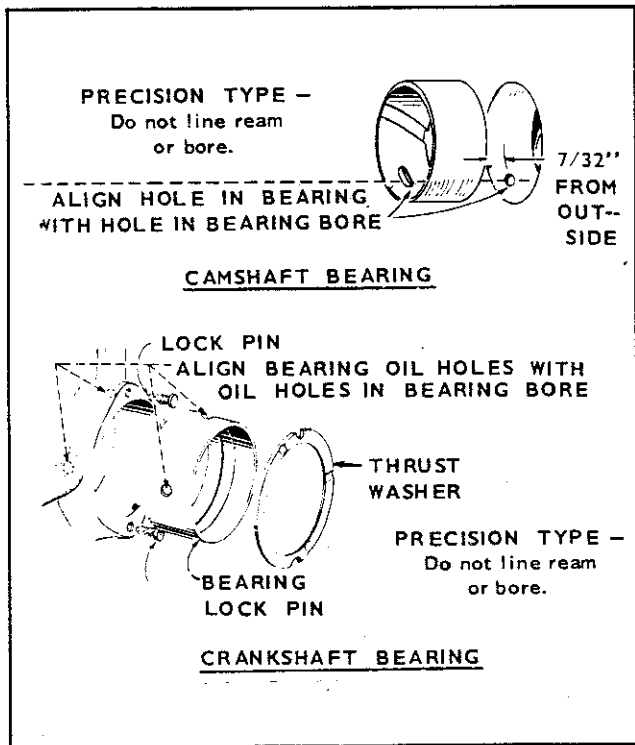

Figure 6-5. Engine Bearing Installation
- (1) Press the two camshaft bearings (102, figure 8-13) into cylinder block (104) bores as shown in figure 6-5. Coat the bearings with clean engine oil to reduce friction. Press the front bearing in position with oil holes aligned. Press front bearing into block flush with outside of bearing bore. Press rear bearing in until past ignition plunger hole.
- (4) Align oil holes in bearings with oil holes in bearing bores (refer to figure 6-5). The oil passage must be at least 1/2 open. Oil the bearings